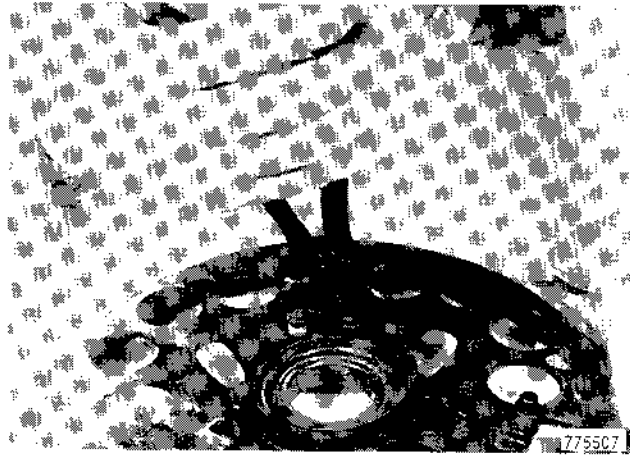

Figure 93
4. Install the outer cover bearing snap ring, Figure 93.